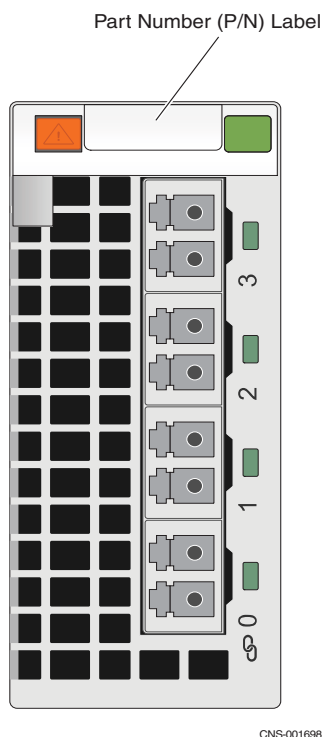

Figure 20 Example of the four-port 8-Gb/s FC I/O module
Figure 20 shows the part number label location on the four-port 8-Gb/s Fibre Channel (FC) I/O module (labeled **8 Gb Fibre** on the latch handle).